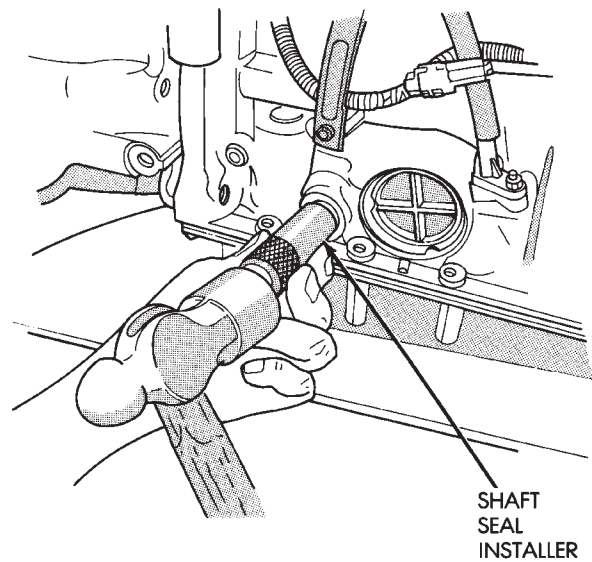

Fig. 24 Installing Manual Valve Shaft Seals
(10) Coat replacement shaft seals with petroleum jelly and seat them in the case (Fig. 24).